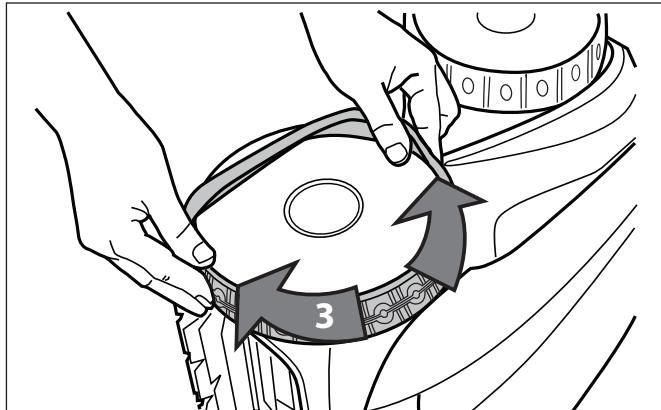

Figure 37. Work the Tire On Around the Wheel
5. Work the tire onto the wheel and verify the rib of the tire is positioned properly within the groove of the wheel (Figure 37).